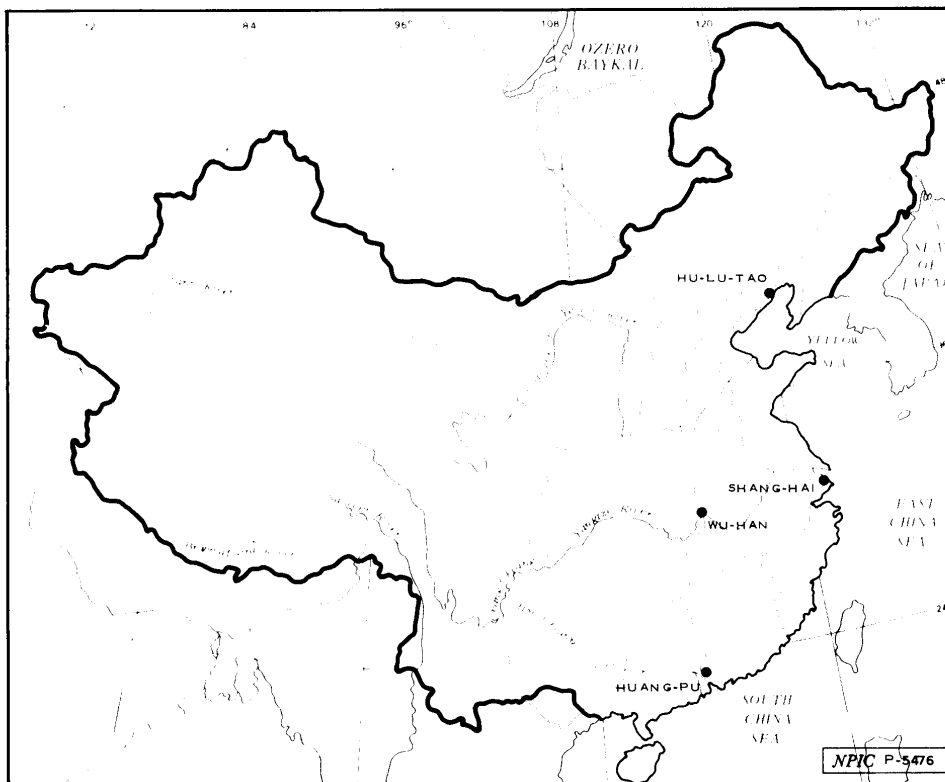

FIGURE 1. LOCATION MAP
2. Submarines are built at four shipyards in China -- Hu-lu-tao Naval Base Shipyard and Port Facility [REDACTED] Wu-han Shipyard Wu-chang [REDACTED] Huang-pu Naval Base and Shipyard [REDACTED], and Shang-hai Naval Base and Shipyard Kiang-nan Dock Company (Figure 1). The Kiang-nan shipyard (Figure 2) is the only one of the four where much of the construction takes place in open areas. Only jigs (cradle-like devices used in the fabrication process) and the top sections of outer hull have been observed in open areas at the other three shipyards. Both items have been precisely measured, and the widths of the jigs and the top outer hull sections are never greater than the beam. Therefore, the identification of jigs with a width greater than the beam of the R SS indicates the construction of a submarine with a larger beam. The jigs and the top sections of outer hull have provided the best clues to present or future construction of submarines at three of the four shipyards prior to launch.